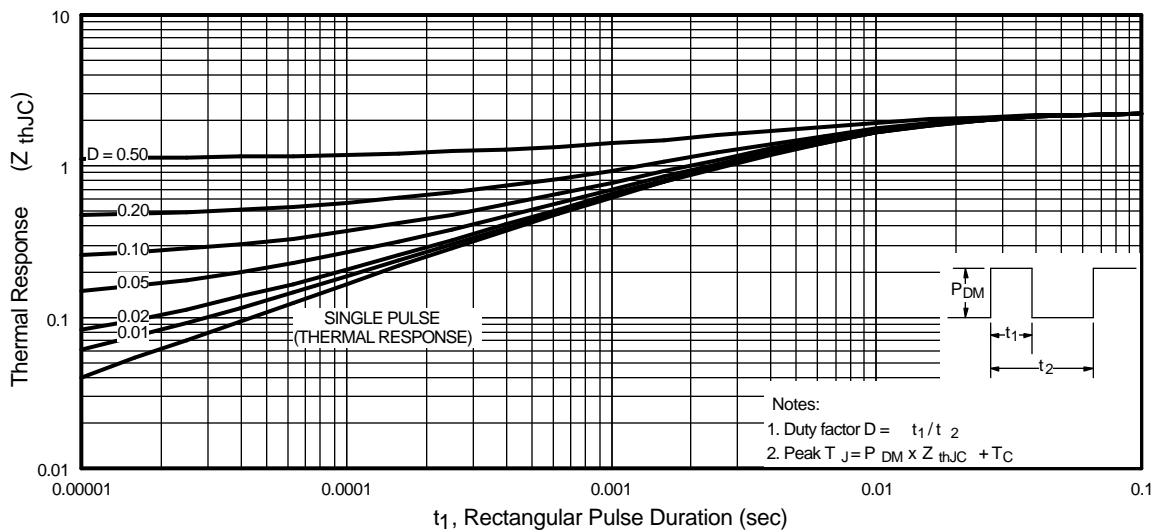

Fig 11. Maximum Effective Transient Thermal Impedance, Junction-to-Case
① Repetitive rating; pulse width limited by max. junction temperature. (See fig. 11)
③ $I_{\text{SD}} \leq 20\text{A}$, $di/dt \leq 140\text{A}/\mu\text{s}$, $V_{\text{DD}} \leq V_{(\text{BR})\text{DSS}}$, $T_J \leq 175^\circ\text{C}$
② $V_{\text{DD}} = 15\text{V}$, starting $T_J = 25^\circ\text{C}$, $L = 470\mu\text{H}$